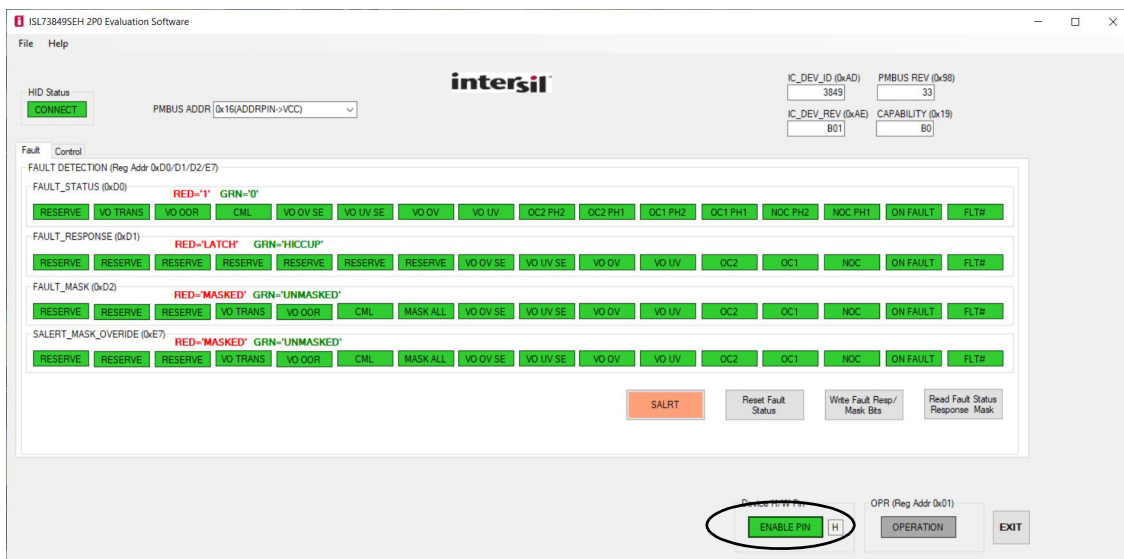

Figure 4. Click the ENBLE PIN Button
- Enable the ISL73849SLH with the Device H/W Pin (**ENABLE PIN** button) on the GUI as shown in Figure 4. The board is enabled and is immediately disabled with the PMBus OPERATION bit.